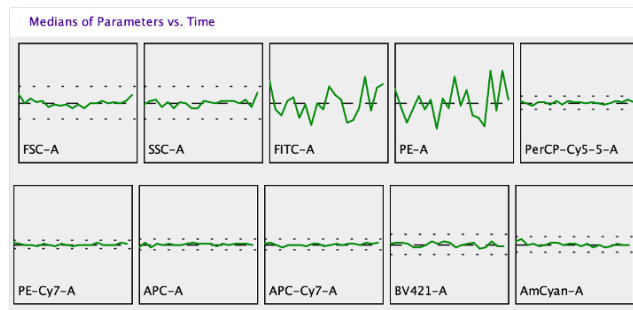

Fig. 12 Example of steady laser lines.
- “Choose Selected Parameters”. This will update the parameters as well as the compensation control plots below (Fig. 12 and 13).